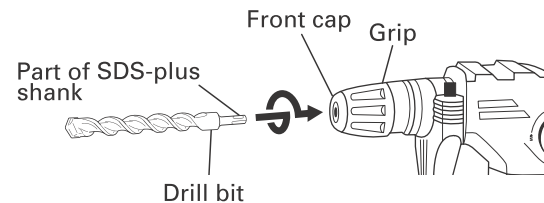

Fig. 2
6. Mounting the drill bit (Fig. 2)
2. Insert the drill bit in a twisting manner into the tool holder until it latches itself. (Fig.2)